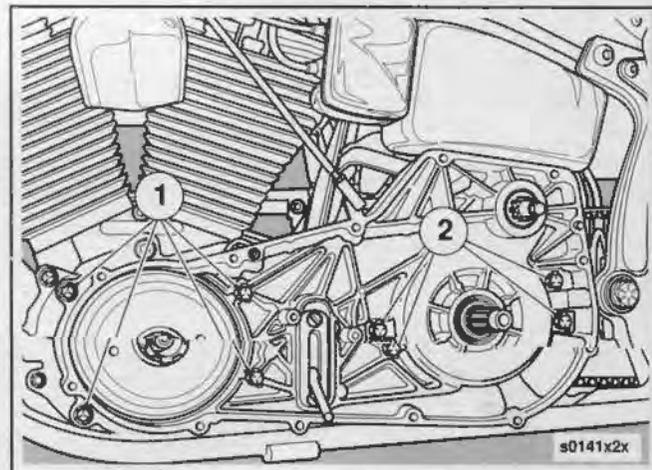

Figure 6-2. Primary Chaincase Mounting
4. See Figure 6-2. Bend the lockplate tabs back and remove primary-to-engine mounting bolts (1) and primary-to-transmission mounting bolts (2).
4. See Figure 6-2. Attach inner primary to the transmission using the original hardware. Lay a bead of silicone sealant around the two bottom bolt holes before installing bolts. Do not tighten hardware yet. Replace locktabs if necessary.
5. Attach inner primary to the engine using the original bolts and washers. Tighten bolts (1) to 25-29 ft-lbs (34-39 Nm). Bend up locktabs of the inner primary-to-engine bolts.
6. Tighten bolts (2) to 17-21 ft-lbs (23-28 Nm) and bend locktabs into place.
3. See Figure 6-2. Attach the inner primary to the transmission using the original hardware. Lay a bead of silicone sealant around the two bottom bolt holes before installing the bolts. Replace locktabs if necessary.
4. Attach the inner primary to the engine using the original bolts and washers. Tighten bolts (1) to 25-29 ft-lbs (34-39 Nm).